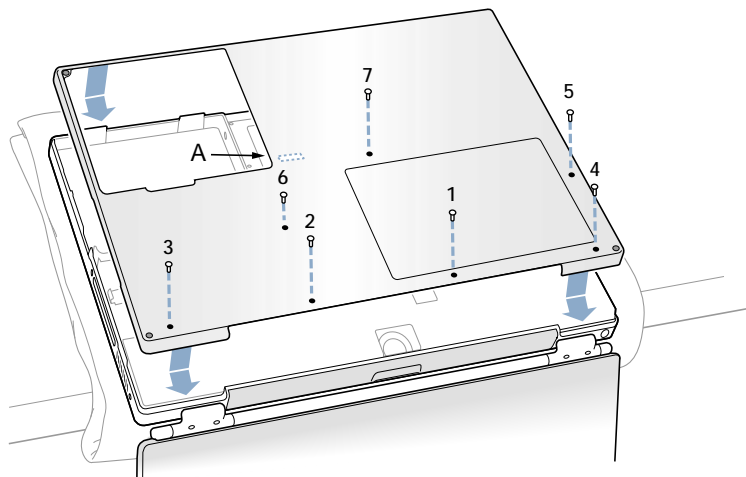

Figure 6
2. Replace the seven screws in the order shown in the illustration (**Figure 6**).